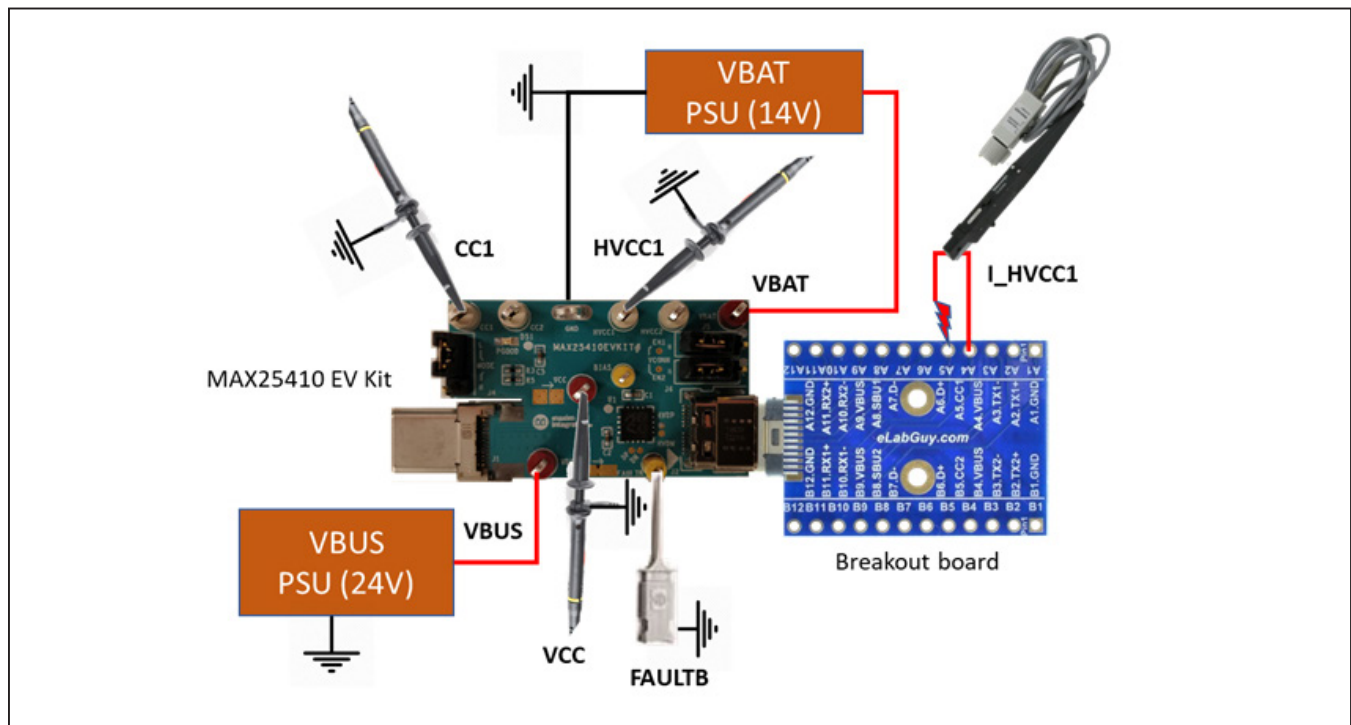

Figure 2. CC Short-to- V_{BUS} Setup
- 5) Connect the oscilloscope probes as shown in Figure 2.
- 3) Connect the oscilloscope probes as shown in Figure 2.
- 2) Connect Dupont wires to the EV kit and to the USB controller V_{CONN} enable signals as shown in Figure 2.